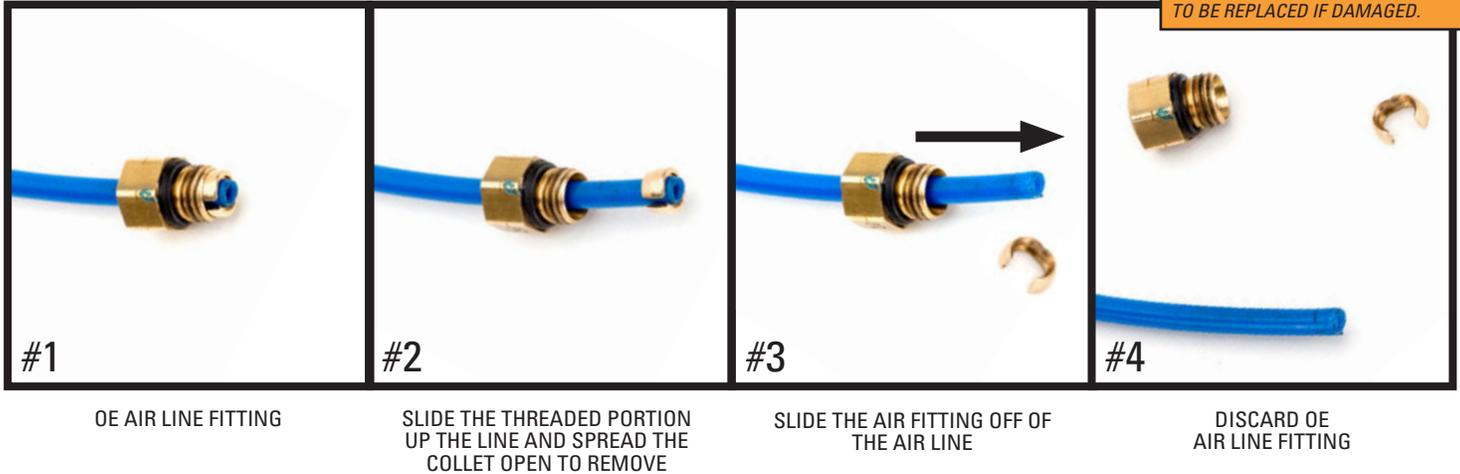

FIGURE 6
6. REMOVE OE AIR LINE FITTING FROM THE AIR LINE AND DISCARD. USE THE FIGURE BELOW AS AN EXAMPLE. (FIGURE 6)